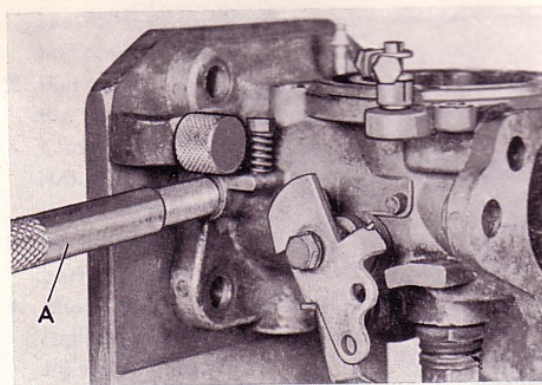

Fig. 109 Pressing in the bush
4. After completing the reaming, turn the stand pin 90° so that it forms a stop inside the carburettor housing for the bushes. Then drive in the bushes with drift SVO 2402, see Fig. 109.